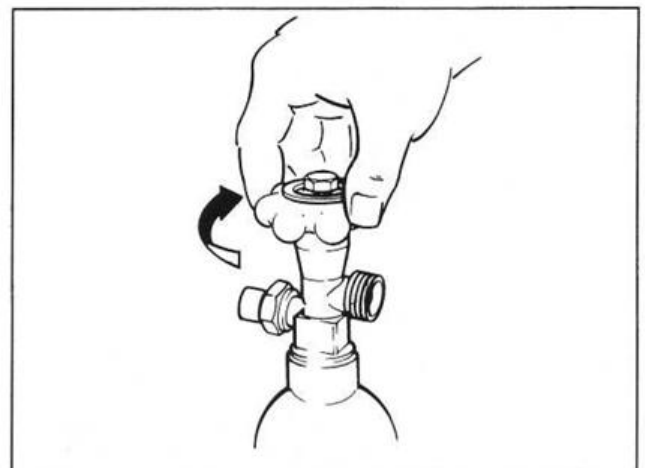
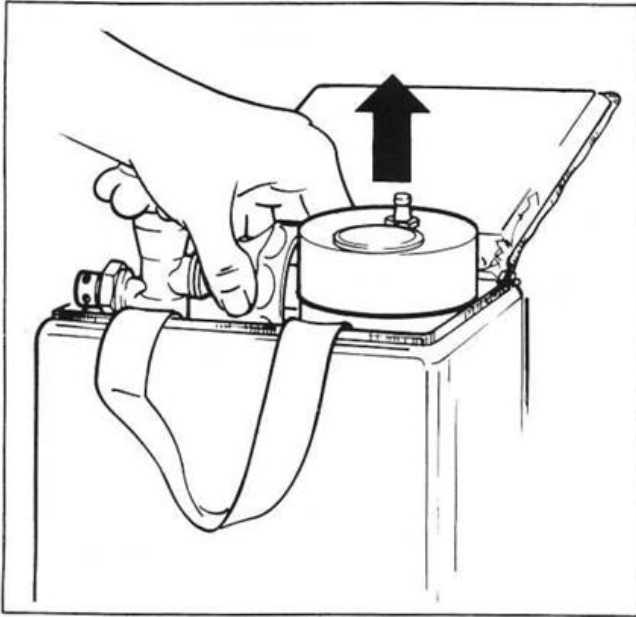
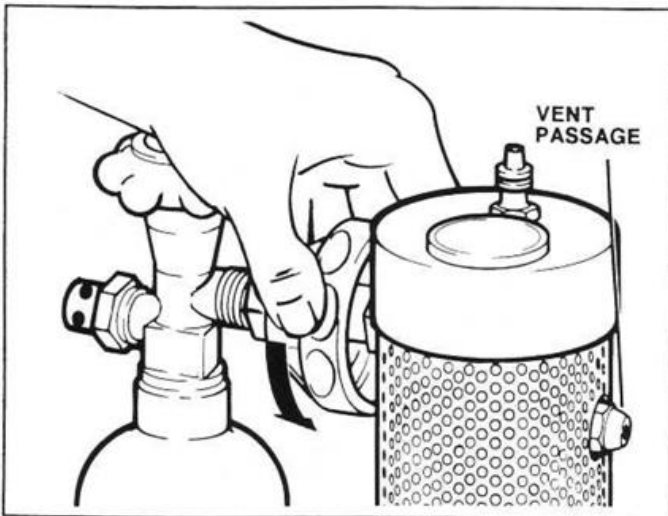

Figure 9. Valve Knob Fully Closed.
Figure 10. Removal from Carrying Case.
Figure 11. Separating the Cylinder.
1. Make sure the nitrous oxide cylinder valve is in a fully closed position by turning the valve knob (Figure 9) clockwise until it stops. Ensure that the oxygen supply to the unit is off and disconnected.
- Remove the mixer assembly from the carrying case as shown in Figure 10.
- Hold the assembly in the upright position and slowly unscrew the large hand-wheel by turning it counterclockwise as shown in Figure 11.
1. Follow **Section 2.4**, close cylinder valve (Fig.9), remove mixer assembly from case (Fig.10), separate cylinder (Fig.11).